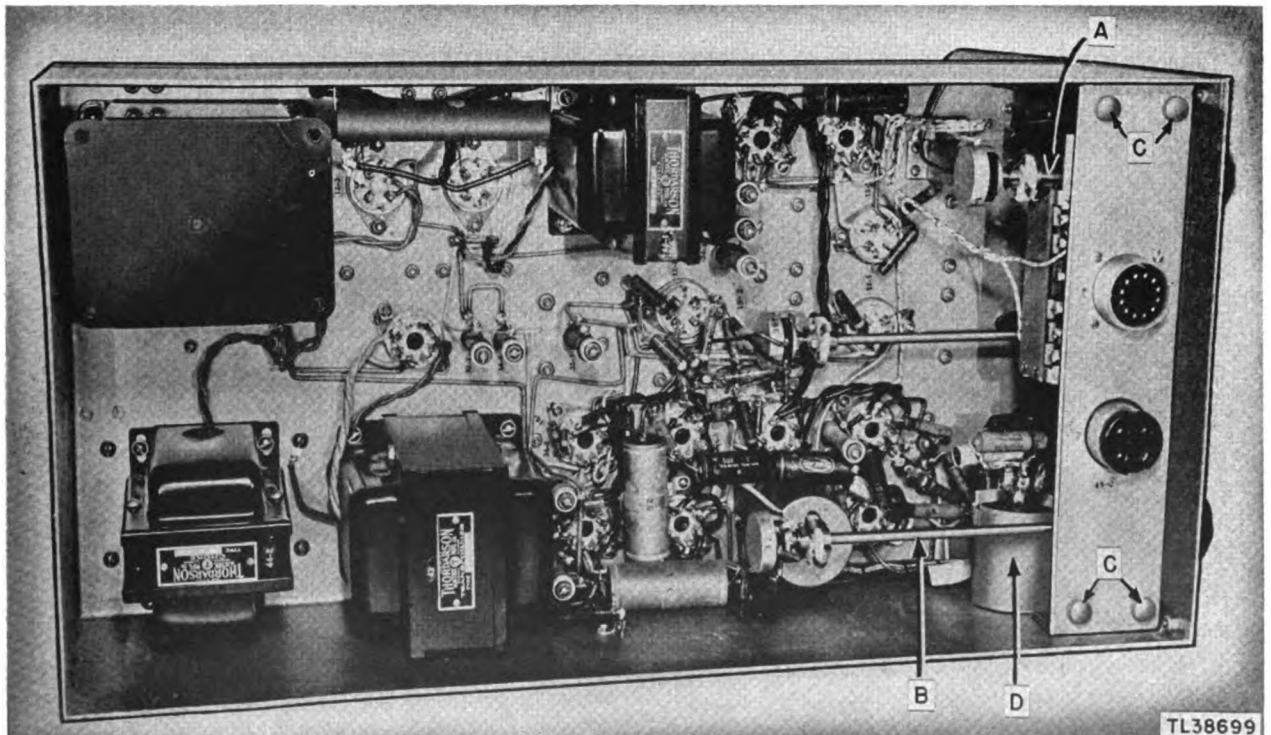

Figure 50. Bottom view of Oscilloscope BC-412 after conversion.
(1) To permit ease of wiring, shafts A and B (fig. 50) of the two controls beneath the chassis
(2) The small cardboard (fig. 18, M) should be bent in the form of a cylinder and held with scotch tape. Place the cardboard tube over the input transformer 48-1 (48-2) of the oscilloscope (fig. 50, D). The cardboard will protect the transformer during the conversion changes and, at the completion of these changes, should be removed.
(3) Remove the four thumbscrews (fig. 50, C) which hold the plug connector bracket on the under side of the oscilloscope chassis.
(4) Remove the two L-shaped brackets which support this plug connector bracket. Invert the bracket and remove the wiring, miscellaneous capacitors, and resistors which are connected to the 45-1 receptacle.
(5) The shielded red lead, two brown leads, and two black leads should be disconnected from the receptacle and tagged for future reference. The lug which is attached to the two black wires, removed from terminal G of the 45-1 receptacle, should be left attached to the black leads. The capacitors, resistors, and the 45-1 receptacle, which can be removed by withdrawing the two mounting screws, are no longer used.
(13) Place the brackets which will support the new 12-pin receptacle in their original positions. Tighten the four thumbnuts to hold brackets in place.
(14) Replace shafts A and B, and remove cardboard D (fig. 50).